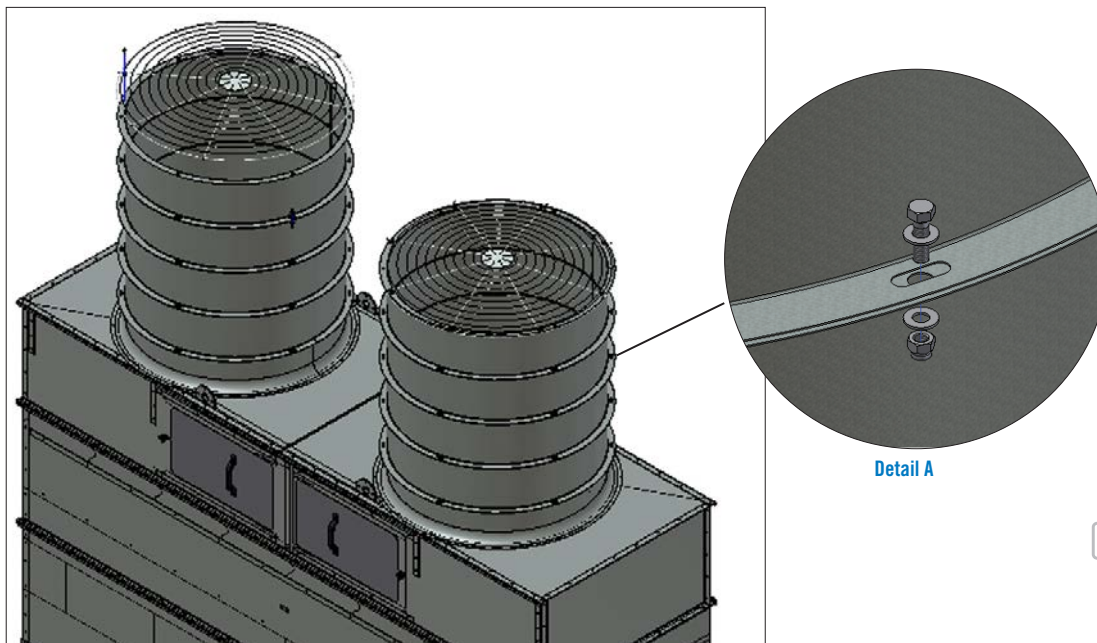

Figure 25. Fan Cowl Extensions
1. Fasten the fan cowl extensions through the large diameter pre-punched holes using the provided hardware as shown in **Figure 25, Detail A**.